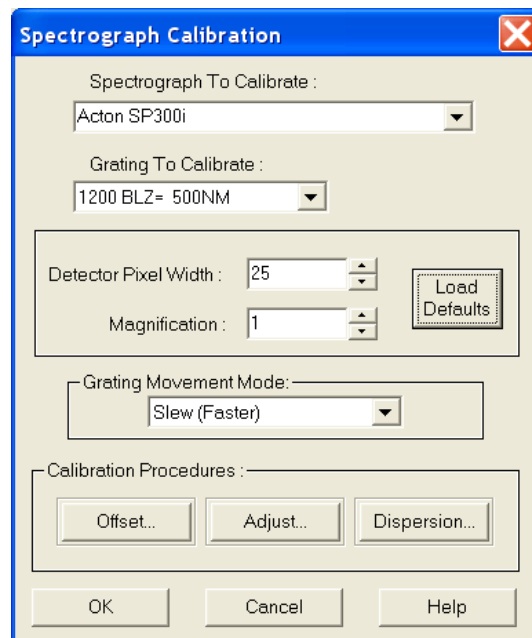

Figure 62. Spectrograph Calibration dialog
3. Select **Calibrate** on the **Spectrograph** menu. This will open the **Spectrograph Calibration** dialog (Figure 62).